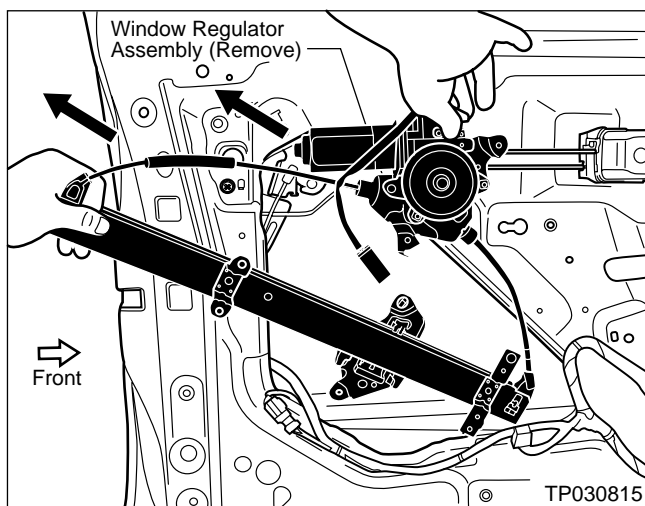

Figure 37
18. Remove the Window Regulator Assembly from the door (see Figure 37).